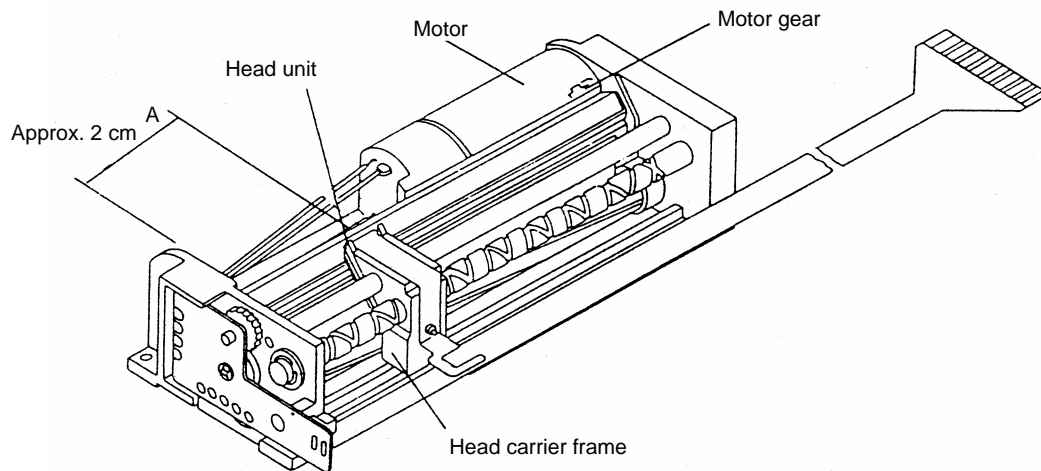

Figure 8-11 Moving the Head Carrier
- (1) Move the head carrier to position A by turning the motor gear by hand to allow easy replacement of the head unit (see figure 8-11).